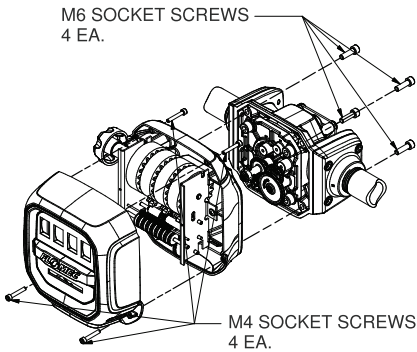

figure 2
1. The mechanical display case can be removed, rotated and reinstalled for easy reading with either horizontal or vertical flow. (see *Figure 2*)
2. Using the 5mm hex L-wrench provided with the meter, remove the (4) M6 socket screws that attach the register case to the housing.
4. Reinstall the (4) M6 socket screws and tighten to 42-46 lb-in [4.7-5.2 N·m] torque.